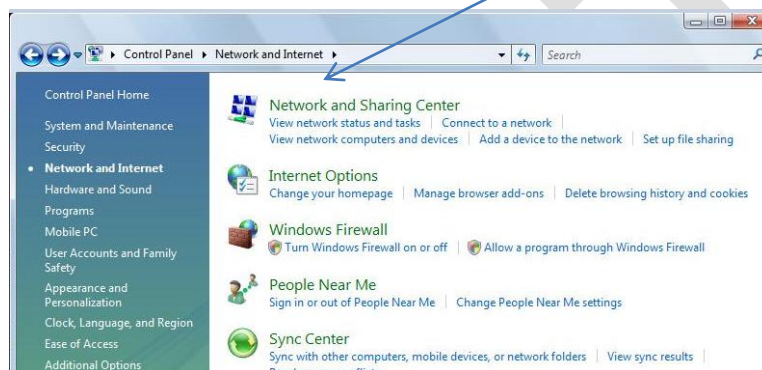

Fig 6
- When the Network and Internet windows opens click “**Network and Sharing Center**” (Fig 6)